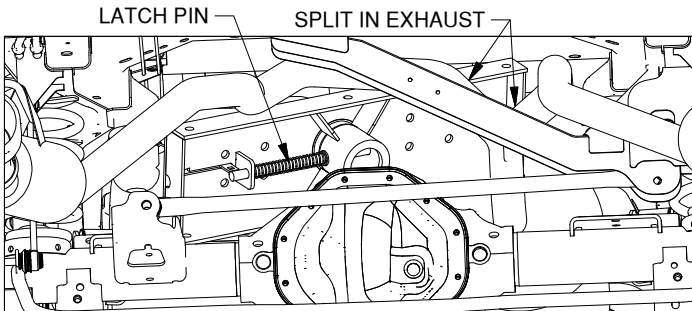
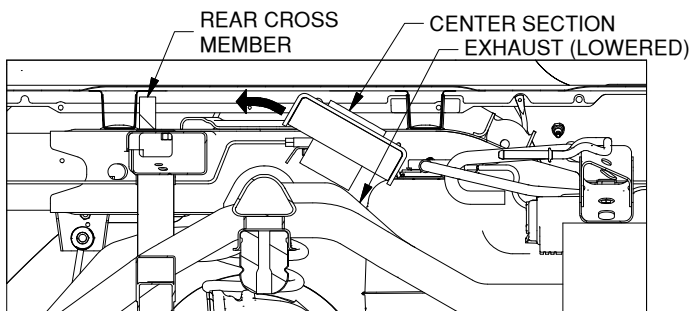

Figure C1: View looking under truck bed toward the cab.
Figure C2: Cut-away view looking toward the inside of the driver side frame.
2. **Position the center section (dual exhaust).** When maneuvering the center into position, the exhaust will need to have downward force applied to it to open up the space below the bed where the center will install. From behind the axle, move the center section over the driver side of the axle toward the passenger side with the latch pin on the driver side. Lift the center up over the exhaust where it splits, as shown in Figure C1. Lower the driver side exhaust and "roll" the center section over the exhaust, as shown in Figure C2. Do not put the 4" diameter raised area of the center into the 4" hole in the bed at this time. Move the center as far toward the rear of the truck and to the passenger side as possible to make room for the front cross member. Position the center in a secure manner so that it will not fall while completing the installation.